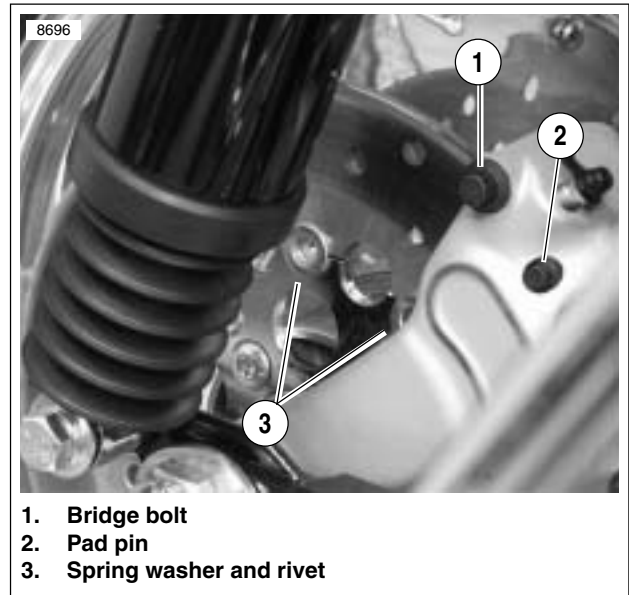

Figure 2-3. Rear Brake Disc and Caliper
3. See Figure 2-3. Loosen both pad pins, but do not remove.